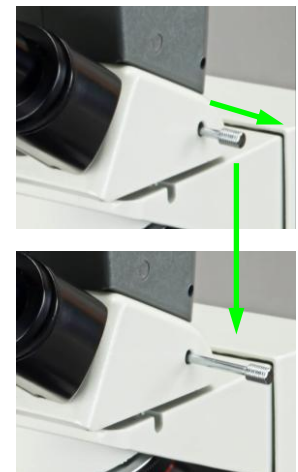

Fig.11
- 4) Pull the swapping lever out (**Fig. 11**)